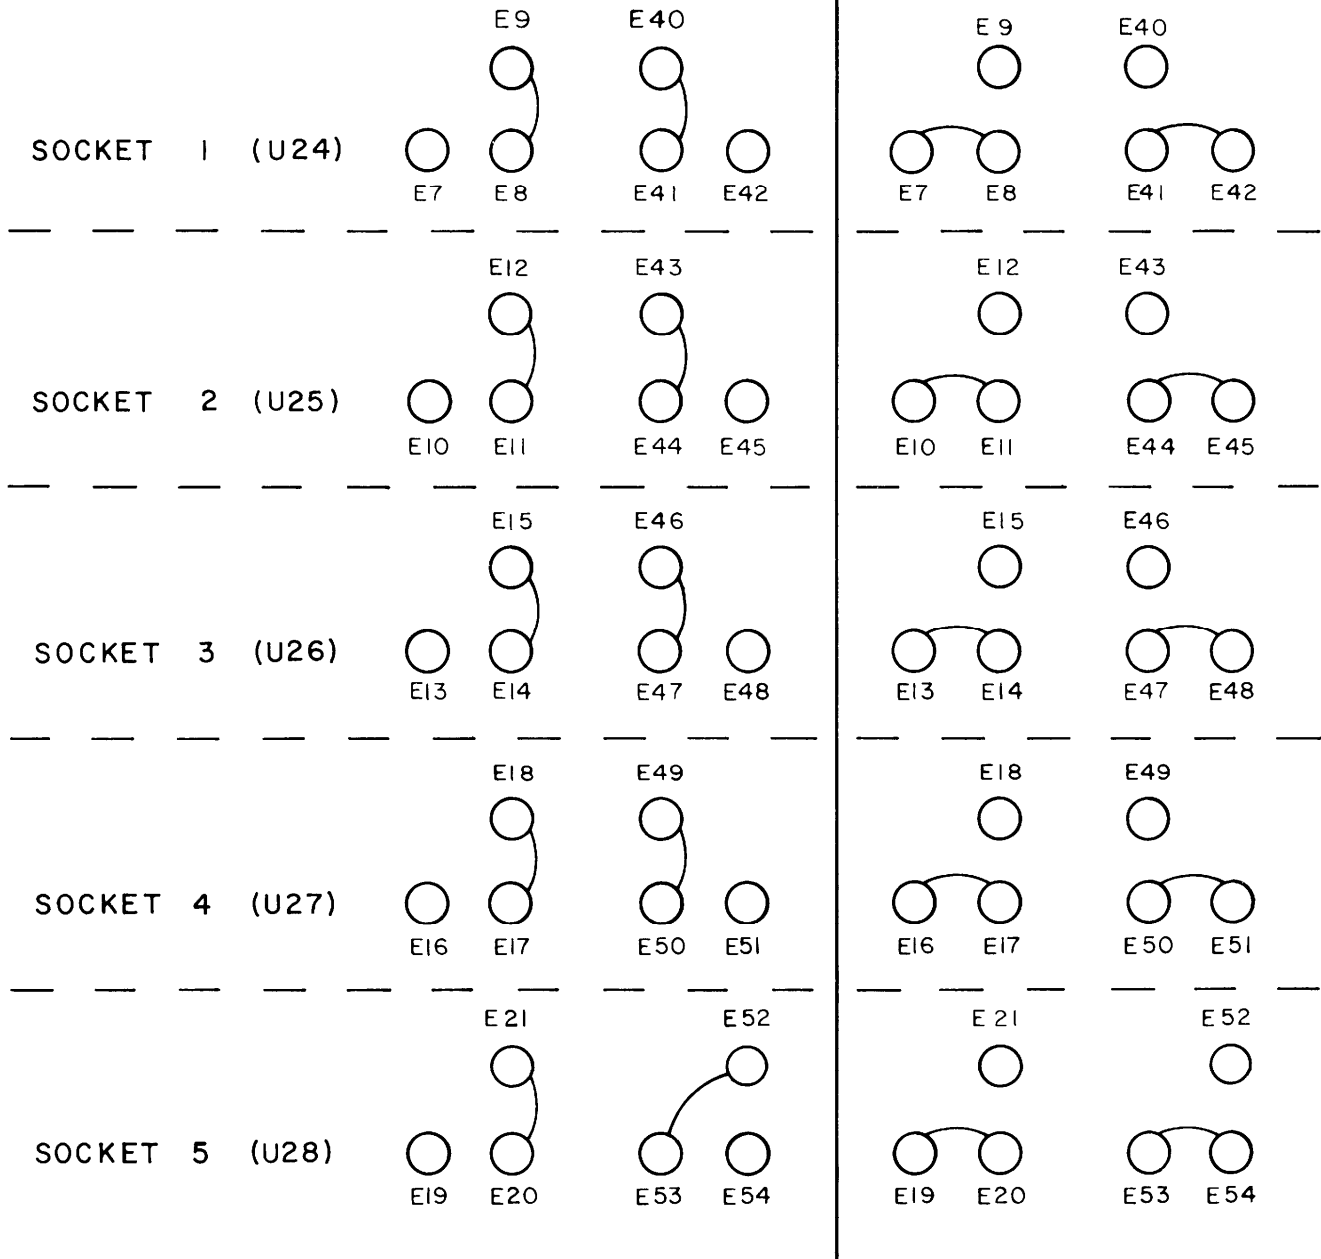

Figure 14
2) To make the 24 pin ROM/PROM Sockets universal to the various memory parts that can be used on this board, two address lines ( $A_{10}$  -  $A_{11}$ ) and two supplies (GND and + 12V) must be jumpered. Figure 14 shows the various jumper connections required to configure each socket.
Figure 14 is divided into 2 columns; the left represents jumpers for all 1K parts, the right shows 2K and 4K options. Figure 15 details the MOS memory chip select options used. The option for each socket (1K or 2-4K) is shown independantly because a mix of memory parts may be required throughout the five sockets.